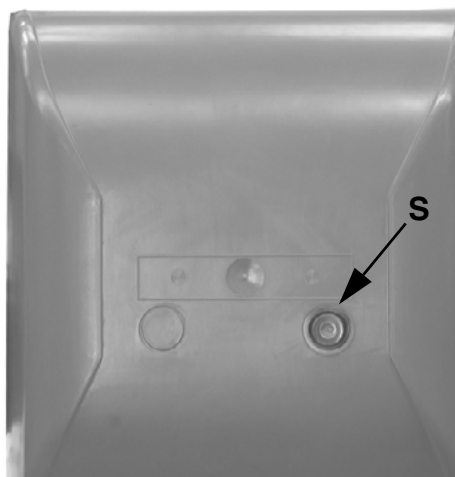

Fig. 49
- Make sure that the apparatus is not in shutdown condition and if so, release by using the release button **S** on the burner cover (see Fig. 49).
| S | Reset pushbutton (Fig. 49) |